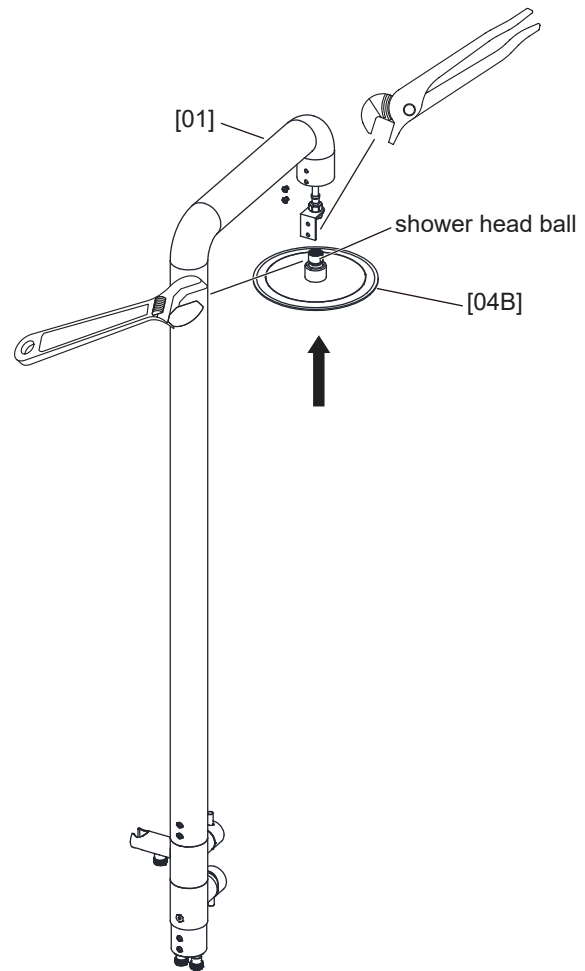

Fig 1.2
Do not overtighten. (Fig 1.2)
- 1-5** Push the **Connector [03]** back inside the **Spout [01]** and secure with the **Screws [02]**. (Fig 1.2)